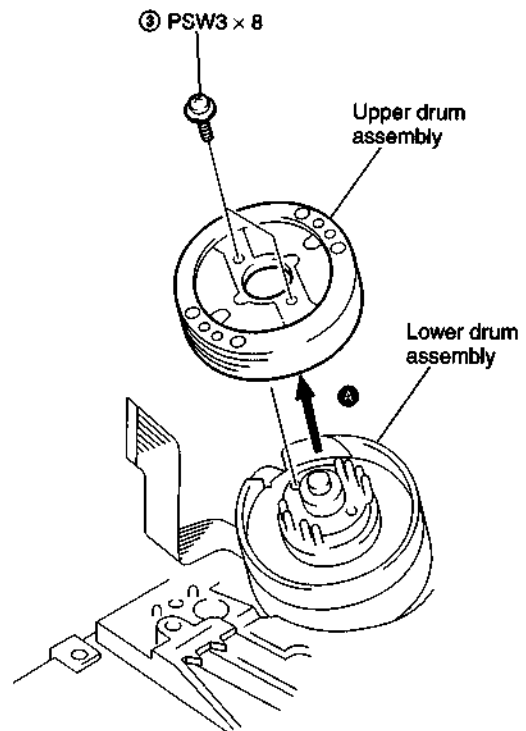

Fig. 2
- 3) Remove two screw ③ (PSW3 × 8) and take out the rotary upper drum in the arrow direction ④. (See Fig. 2.)
- 2) Mount the rotary upper drum board so that the screw holes of both upper and lower drums match. (See Fig. 2.)
- 4) Tighten two screws ③ (PSW3 × 8). (See Fig. 2.)
- 6) Fix the ground shaft assembly ② using the screw ① (BV3 × 8) so that the protrusion of ground shaft assembly end contacts the center of the drum shaft.